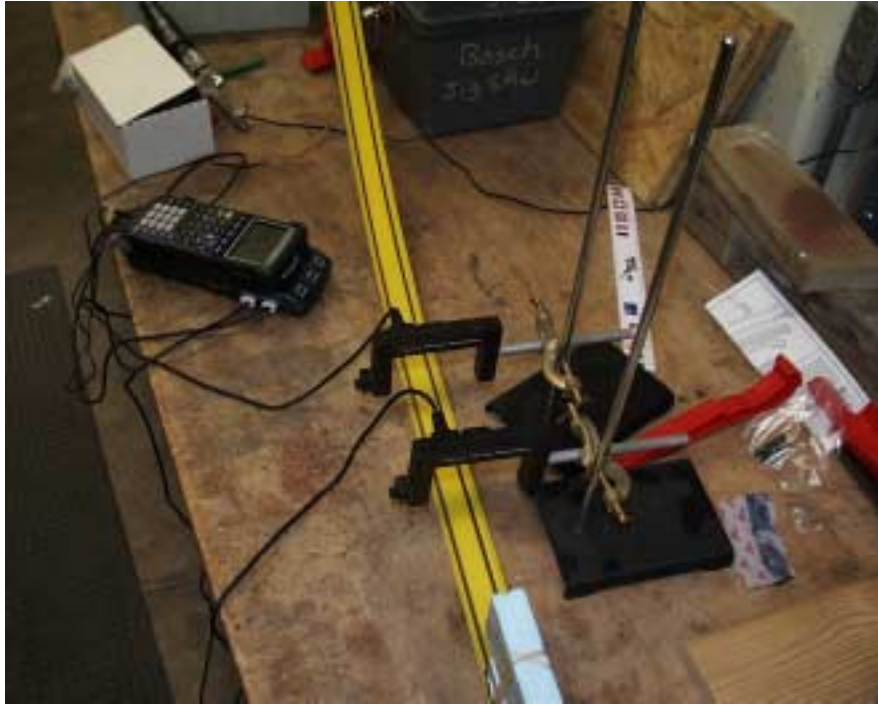

Figure 1: Equipment setup
1. Set up equipment as shown in Figures 1 and 2. The photogates need to be in the gate mode where each one operates independently of the other. If the photogates are set to record the time it takes for an object to pass between the two gates, the data collected will be incorrect.
The students should set up the equipment as shown in Figure 1. The distance between the photogates should be approximately .2 meters.